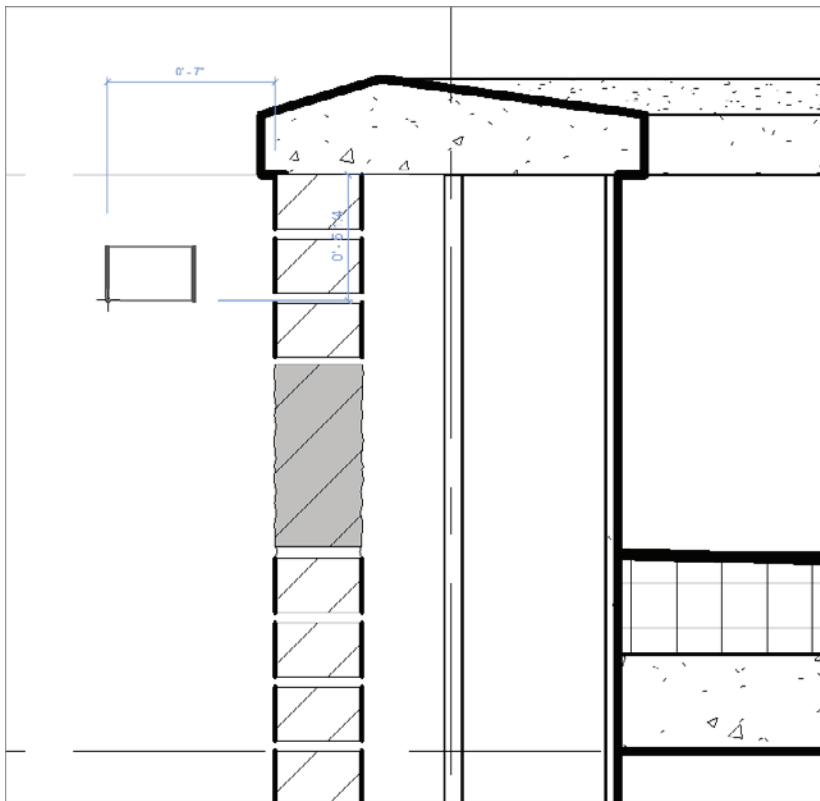

FIGURE 12.34 Place the Brick Standard : Running Section detail component off to the side. You'll delete this occurrence of the component later.
3. Place the detail component off to the side of the wall, as shown in Figure 12.34.